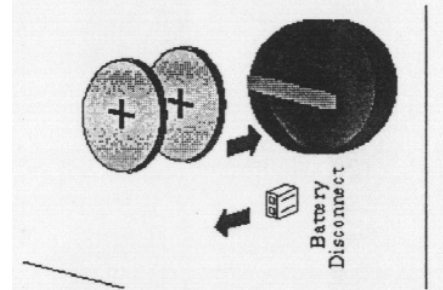

Figure B-2 Correct polarity of batteries
8. Install two fresh batteries, being sure to match the polarity. The negative (-) surface of both batteries must face in, toward the circuit board. The positive (+) face of both batteries must face out, toward the battery holder clip (see Figure B-2). The battery holder clip must press against the top battery.